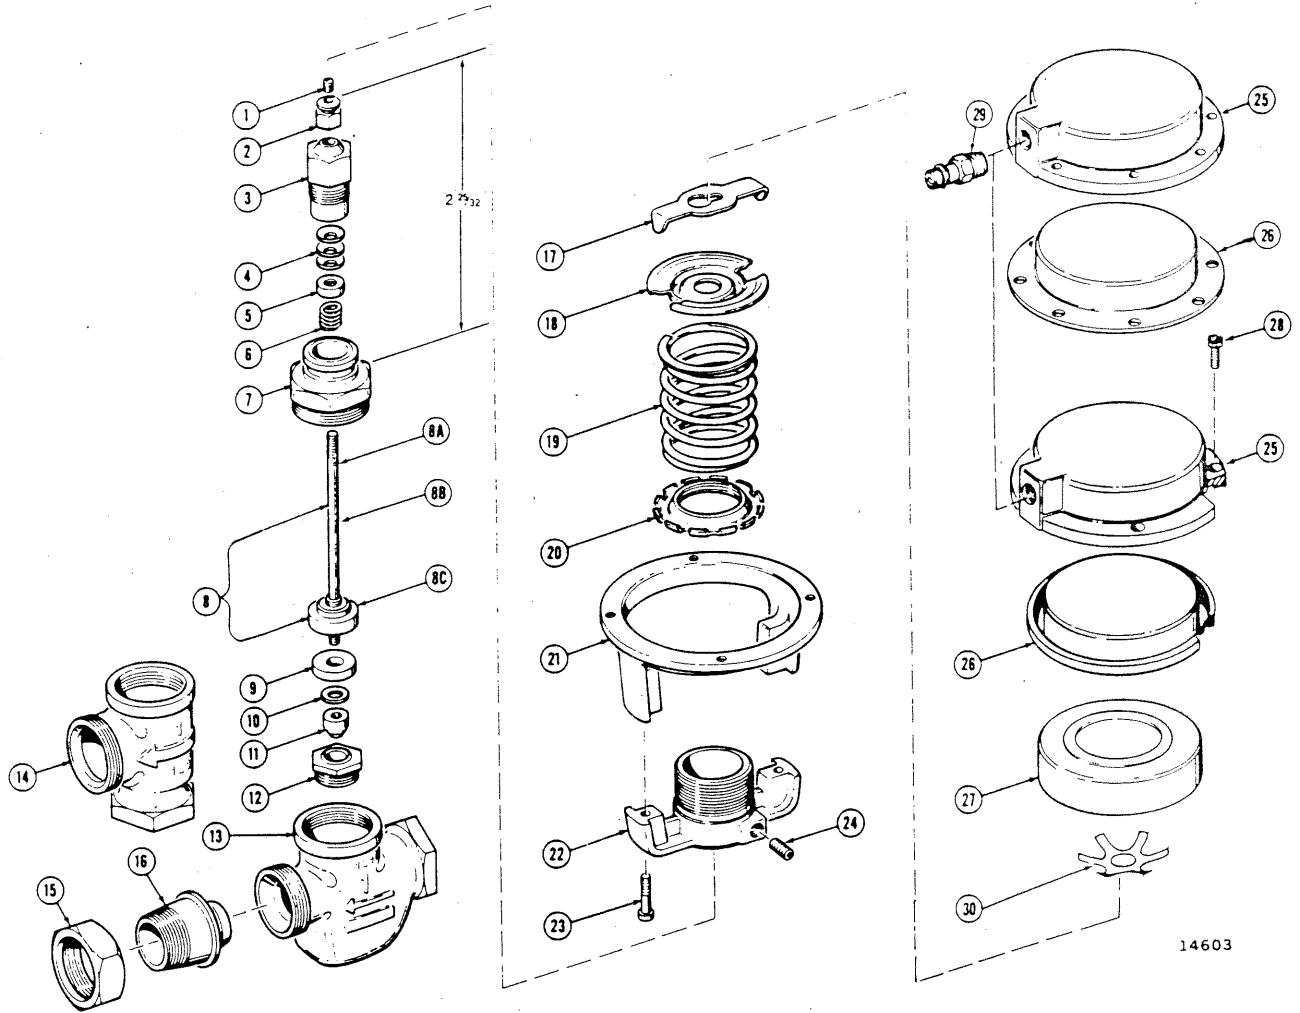

Fig. 5. VP512A Exploded View.
The numbers in parentheses in these procedures are the key numbers in Figure 5.
1. Valve bonnet (7) must be tight.
2. With valve in closed position, adjust the stem button (2) until top of button is 2-25/32 inches (70 mm) above top of bonnet (Fig. 5).